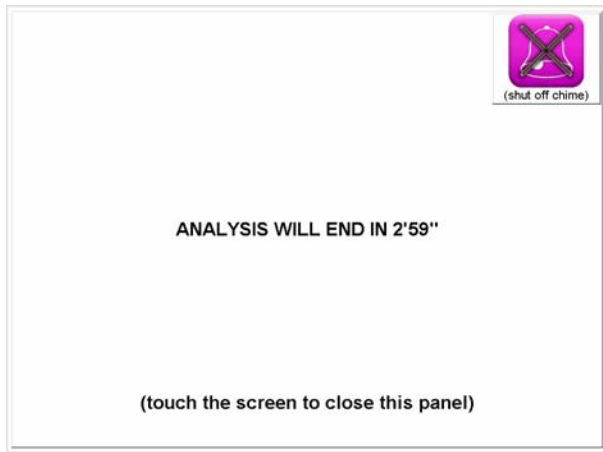

Figure 12: End Analysis Screen
4. An alarm will sound along with a full screen notice three minutes before the end of the analysis. See Figure 12 below. Touch the screen to shut off the alarm and close the full screen notice. The status bar will display the countdown to the end of the analysis.